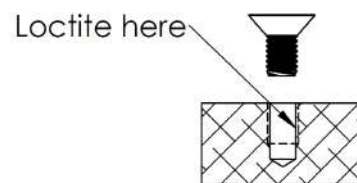

Fig.2 Blind Hole
- C. For blind holes, apply threadlocker on thread hole (fig 2)